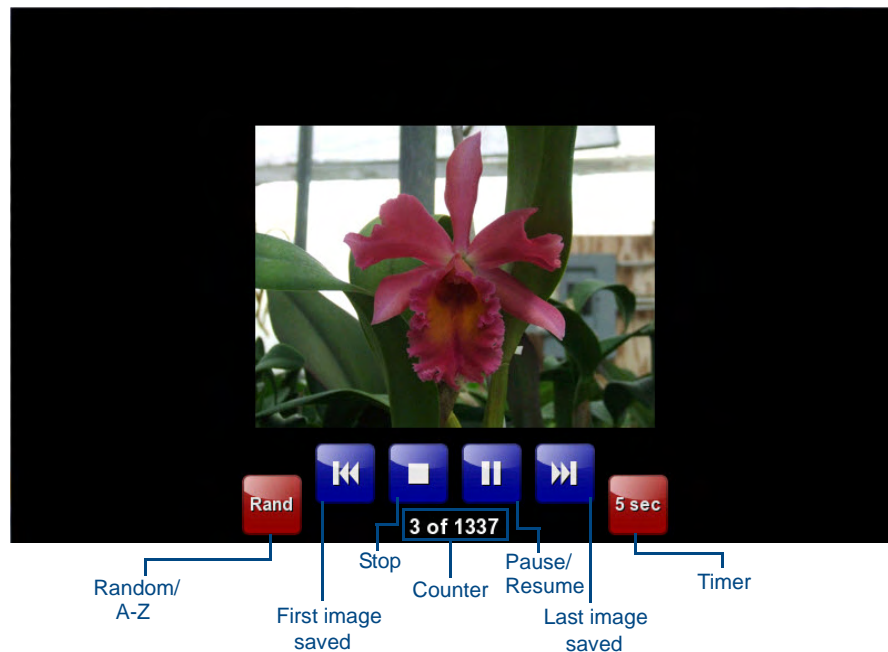

FIG. 4 Picture View configuration popup menu
- When the images begin to display, touch any place on the touchscreen to open the configuration popup menu (FIG. 4). If no selection is made, this menu will remain in place for 15 seconds and then disappear. It may be accessed again by touching anywhere on the touchscreen.